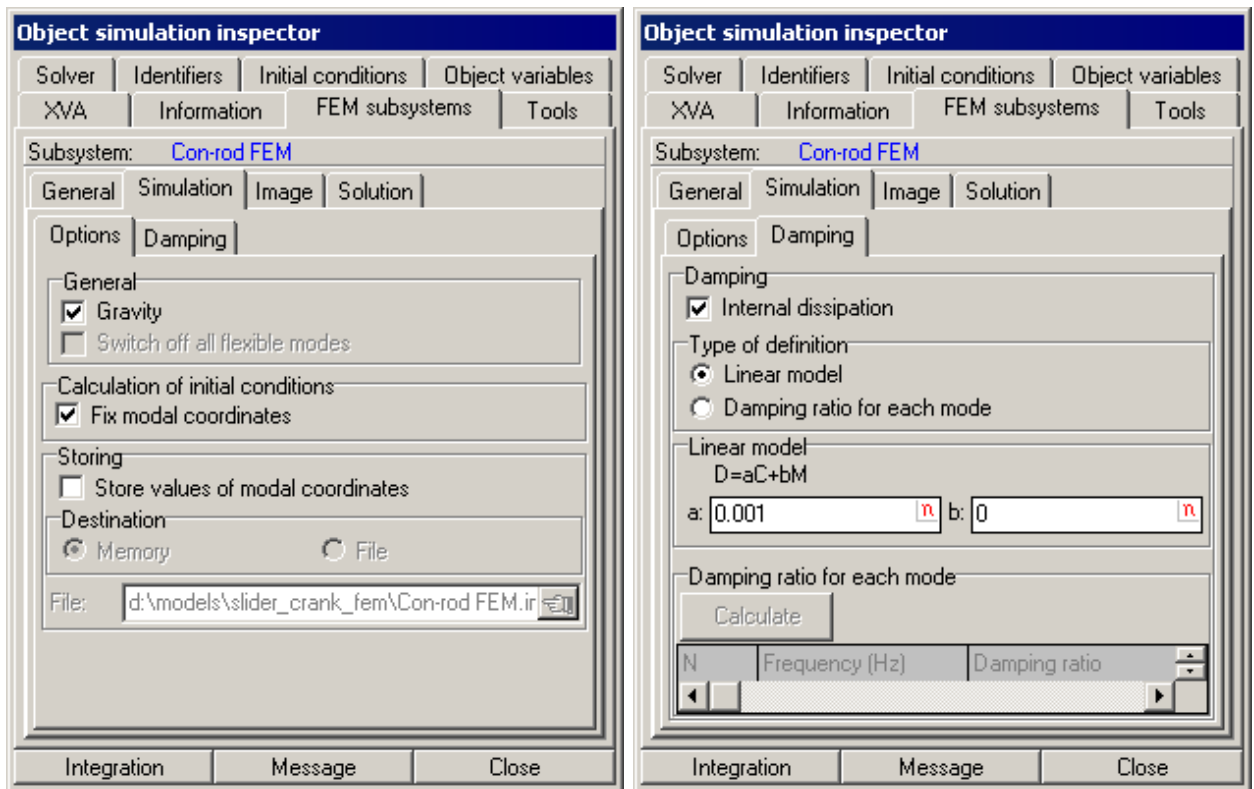

Figure 2.28.
9. Select the **FEM Subsystems/Simulation** tab and set up all options according to Fig. 2.28.